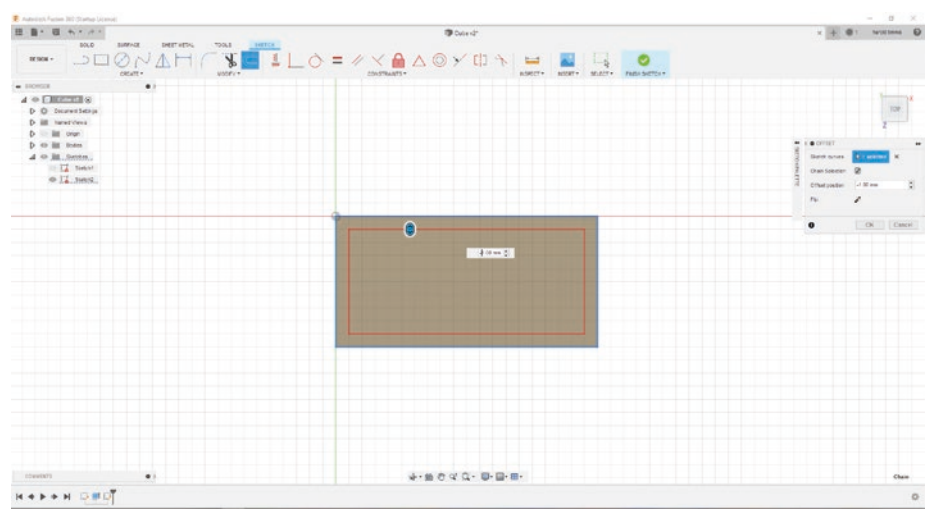

Figure 3-61. *Edit the dimension to -1mm*
12. Notice that there is now a box around your 3D object. To change this, put -1.00mm into the Offset position text box, or just click the “Flip image.” Press “Enter” when you are finished. See Figure 3-61.